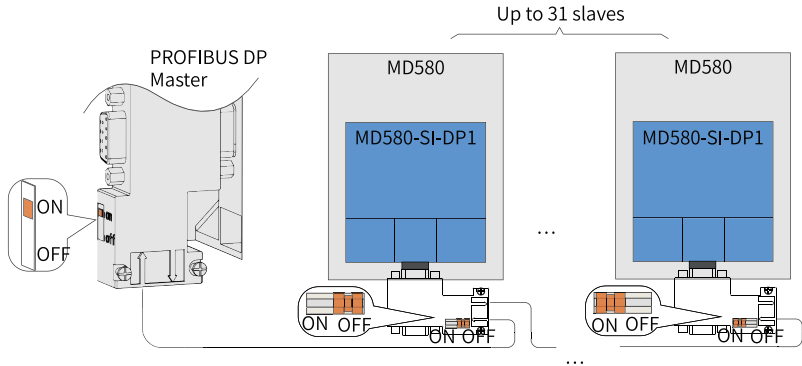

Figure 3-33 Multi-drive system connection without any repeater
- For multi-drive system connection without any repeater, connect termination resistors to the first and last AC drives, as shown in *"Figure 3-33 Multi-drive system connection without any repeater" on page 91.*